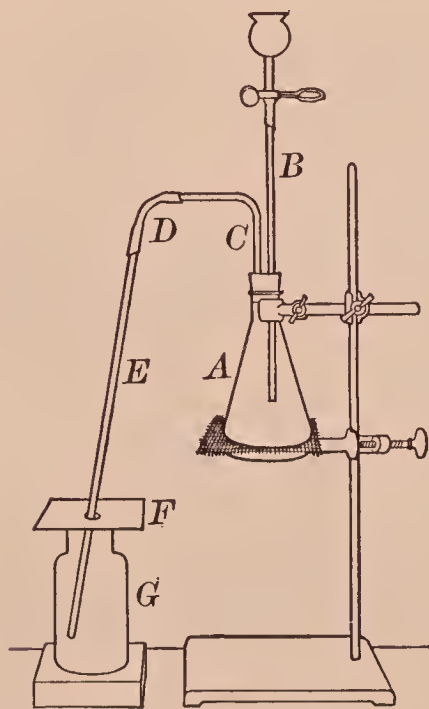

FIG. 37. — Apparatus for preparing hydrogen chloride and hydrochloric acid
APPARATUS. — As in Fig. 37 (or Fig. 38). *A* is a 250 cc. Erlenmeyer flask which stands on a gauze-covered ring; the parts lettered *B*, *C*, *D*, *E* have been used in preceding experiments. *F* is a piece of stiff paper.
I. Preparation. — (1) **Hydrogen chloride.** — Put 8 cc. of water into a small bottle or an evaporating dish, cautiously add 10 cc. of concentrated sulfuric acid, and stir until the two are mixed. While this mixture is cooling, weigh 10 gm. of sodium chloride, slip it into the flask, and arrange the apparatus as shown in Fig. 37. If a straight thistle tube is used (Fig. 38), the lower end must be below the surface of the acid.
APPARATUS. — As in Fig. 37. If desired, the optional apparatus shown in Fig. 38 may be used.
**I. Preparation.** — Slip the manganese dioxide into the flask. Arrange the apparatus as shown in Fig. 37. Intro-